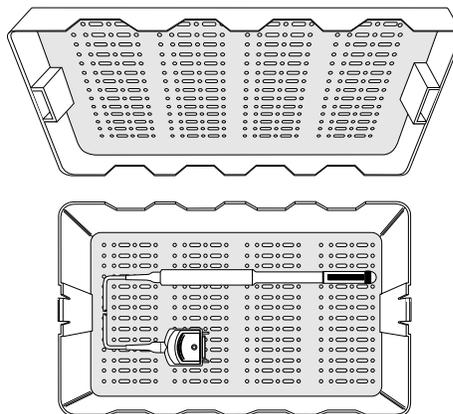

Figure 3-2: 8BP4 Probe in Sterilization Tray
1. Place the probe into sterilization tray (Figure 3-2).